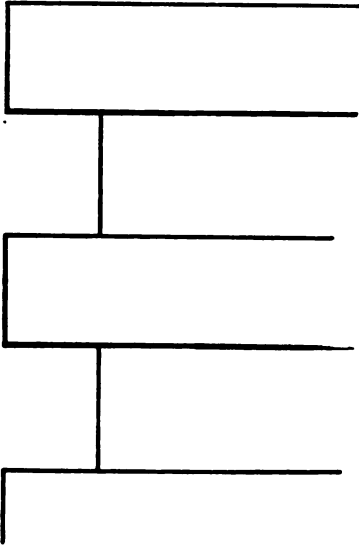
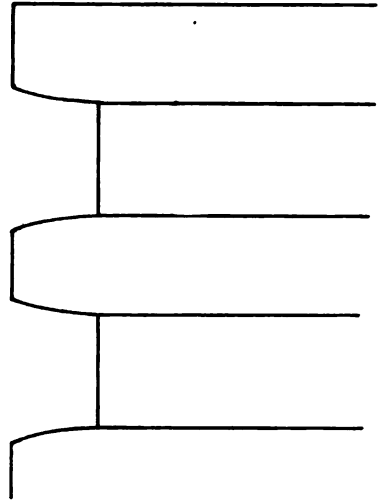

Fig. 11, showing square edges of piston ring slots. Operator must never allow the square edges to become beveled by loosely fitting piston rings
Fig. 12, showing square edges of piston ring slots worn to a bevel by piston rings that had too much vertical play.
Fig. 11 shows the square edges of the piston ring slots. Fig. 12 shows the square edges of piston ring slots worn to a bevel by piston rings that had too much vertical play.
- 117** — Fig. 12 shows the square edges of the piston ring slots worn to a bevel by poorly fitting piston rings. If these square edges are worn to a bevel, it will be impossible to prevent the passage of gases above and below the piston ring and the edges of the slot because the lubricating oil cannot form an effective seal when there is much vertical movement of the piston ring in the slot. *The dry air cleaning device that is used in conjunction with the carburetor should be kept in operation at all times, as it excludes from the engine the dirt that normally would gain access to the combustion chamber and produce wear on the piston ring slots, in addition to the wear that would occur from a loosely fitted piston ring.*
- 130** — When the piston ring is placed in the slot on the piston, it should be free to move in every direction horizontally, *but should move only a slight amount in the vertical.* This vertical movement must be limited from .001 to .0015 (one to one and one-half thousandths) of an inch, so that the expansion will almost close the piston ring slot on the top and the bottom, a thin film of lubricating oil being the final seal to retain compression and prevent the passage of the products of combustion around the ring in the slot. A smooth brown cigarette paper usually micrometers .001 to .0015 of an inch and makes a convenient guide to gauge the vertical movement. If the piston rings are fitted too loose in the beginning, wear on the square bevel edges will ultimately produce the condition shown in Fig. 12, page 31.